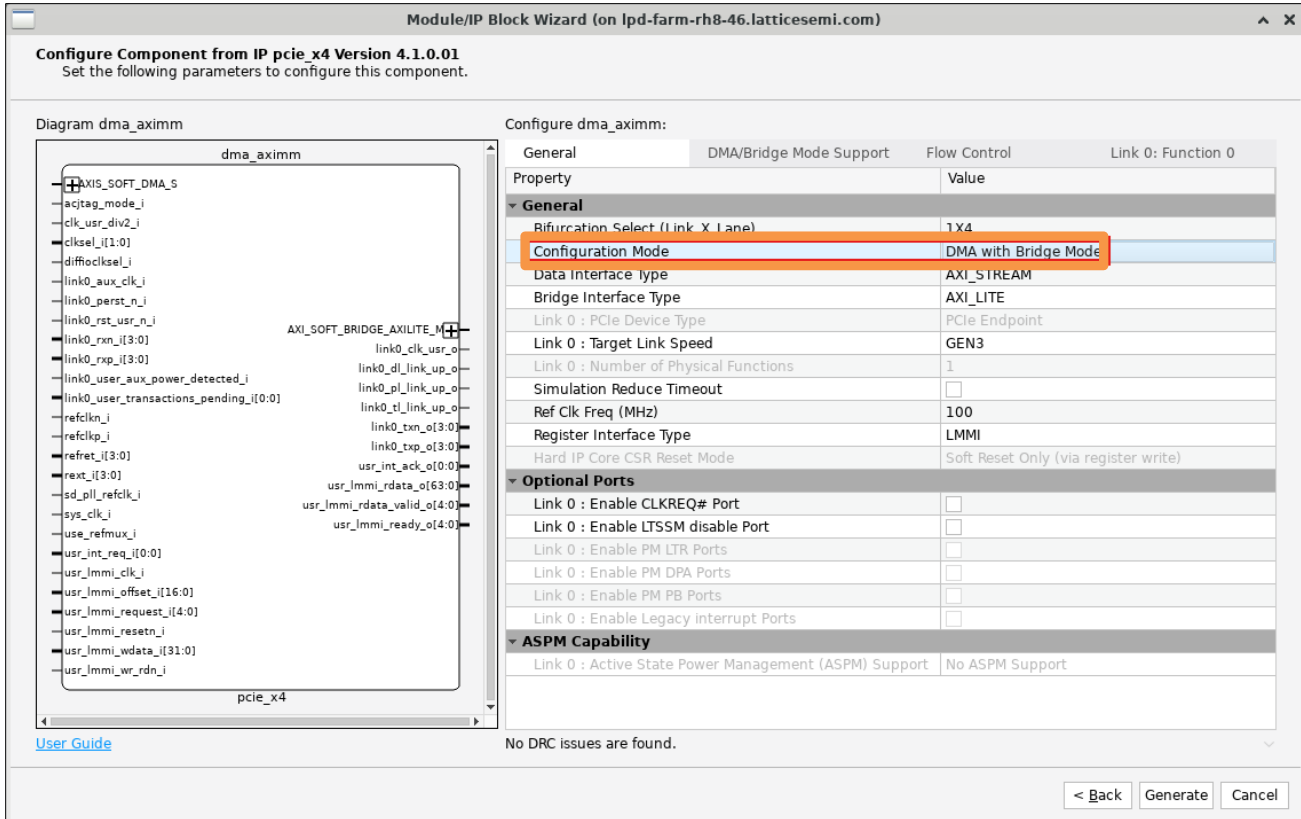

Figure 6.7. DMA with Bridge Mode Example Design Settings (General Tab)
7. To generate DMA with Bridge Mode example design, double-click the **PCIe\_X4** in the **IP Catalog** and generate the IP by selecting **DMA with Bridge Mode** at **Configuration Mode** and **AXI\_MM** at **Data Interface Type** drop-down menu. For **Bridge Interface Type**, either **AXI\_LITE** or **AXI\_MM** can be selected from the drop-down menu (refer to Figure 6.7). Under DMA/Bridge Mode Support tab, configure the **Number of User Interrupt** to a value from 1 to 4. Then, repeat steps 2 to 6.